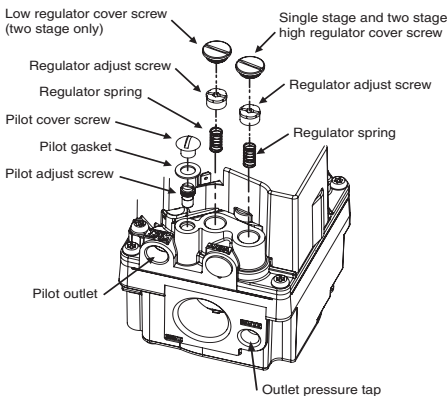

Figure 9. Pressure Adjustment
2. Remove plug and install hose barb fitting and manometer to pressure tap on outlet end of valve. See fig. 9.
4. (2-stage only) Remove regulator cover screw from the low outlet pressure regulator adjust tower (fig. 9) and turn screw clockwise (↻) to increase pressure, or counterclockwise (↺) to decrease pressure. Always adjust regulator according to original equipment manufacturer's specifications listed on the appliance rating plate. Replace regulator cover screw.
6. Remove regulator cover screw from the single stage or high outlet pressure regulator adjust tower (fig. 9) and turn screw clockwise (↻) to increase pressure, or counterclockwise (↺) to decrease pressure. Always adjust regulator according to original equipment manufacturer's specifications listed on the appliance rating plate. Replace regulator cover screw.
To adjust the pilot gas pressure, remove the cover screw (See fig. 9). **To REDUCE pilot pressure**, turn the pilot adjust screw (beneath the cover screw) clockwise (↻). **To INCREASE pilot pressure**, turn the pilot adjust screw counterclockwise (↺). Replace and tighten cover screw.